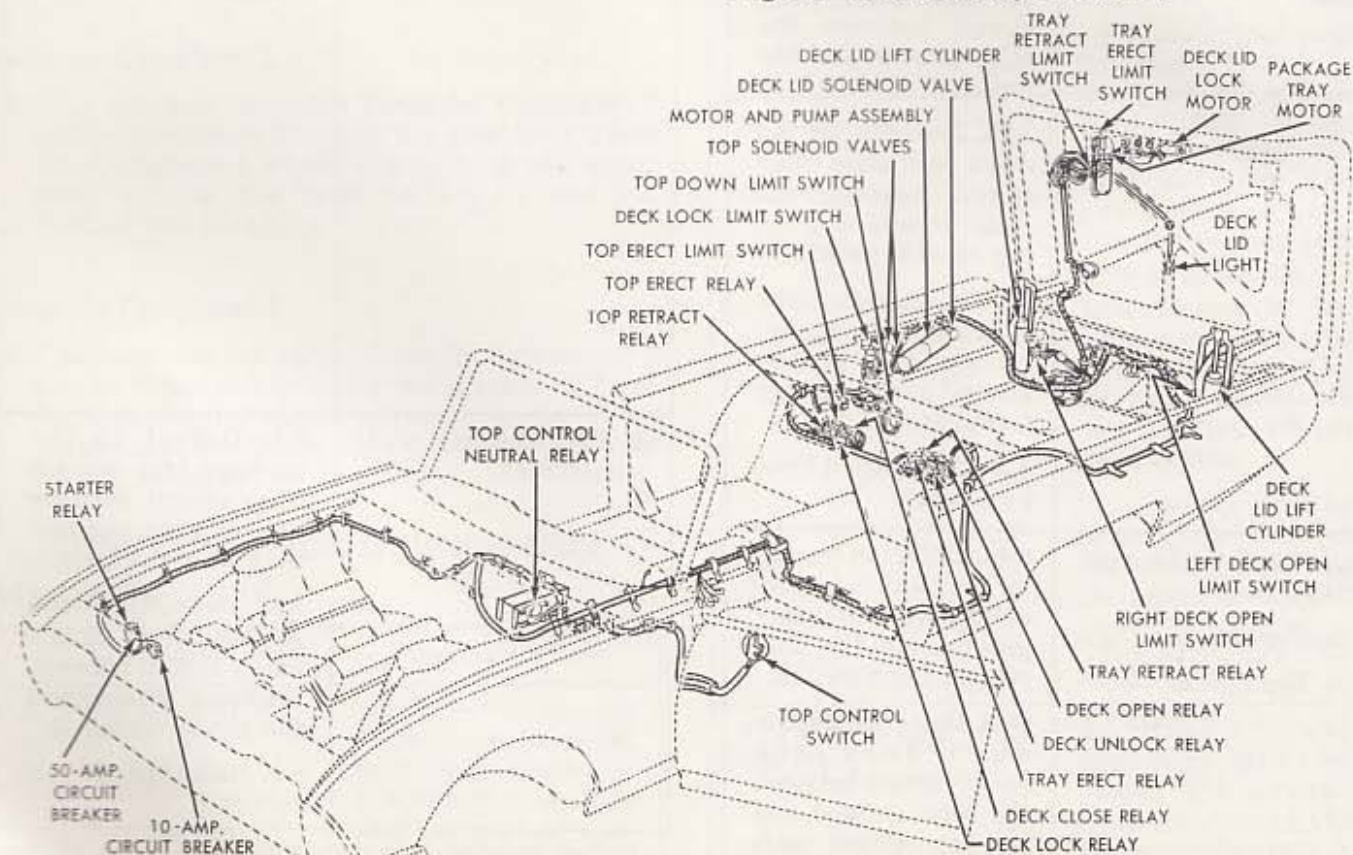
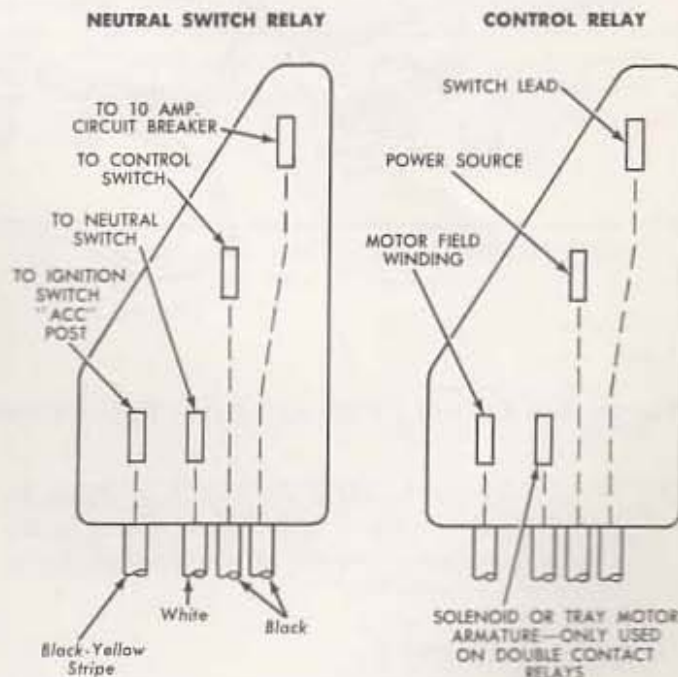

Fig. 26—Limit Switch Locations
Fig. 28—Relay Wire Connector Identification
2. Remove the multiple plug from the deck unlock relay (Fig. 26).
- 1-1. Check for power at each connection in the safety relay circuit between the ignition switch and the starting motor relay (Fig. 28). Be sure all switches are closed (Fig. 26). If there is power in this part of the circuit, go to Test 1-2.